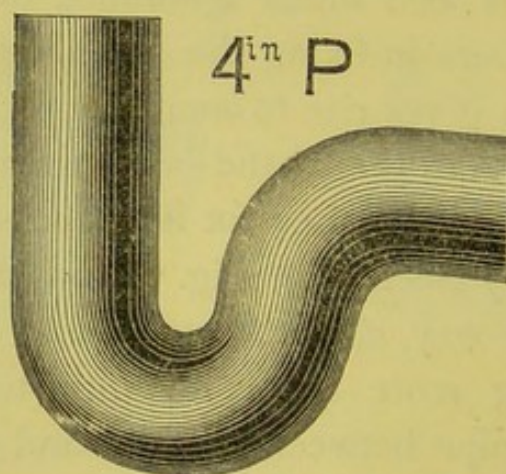
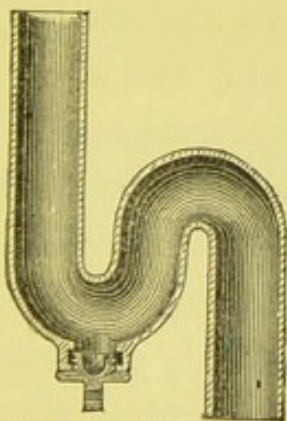

FIG. 7.
FIG. 8. SECTION.
Traps with a cleansing "cap and screw" attached (see Figs. 8 and 9) are always very convenient when fixed to lavatories and sinks, &c. &c., or at the *foot of soil-pipes*; but to water-closets, and places of that kind, they are of no value, for the hand can always get down to the trap through the apparatus. When a trap has a "cap and screw" attached to it, care should be taken to see that this cleansing screw-cap is *below* the water-dip, and on the *house-side of the trap*—i.e., it should be under the level of the water in the trap. Where
*Patent Cast-lead Trap.*—The most self-cleansing lead trap now in use is the patent cast-lead trap, as Figs. 7, 8, and 9: there are no soldered
made by hydraulic pressure. The substance of the lead is regulated, but the strength is equal to Strength. milled lead 7 lbs. and 8 lbs. to the superficial foot. It consists simply of a round pipe cast into the shape somewhat of a reaper's hook in the one case, as Figs. 7 and 9; and in the other somewhat of the letter S, as Fig. 8. Figs. 7 and 9 are known in the trade by "P" or "Half S," and Fig. 8 by "S."
A cap and screw are attached to the smaller size traps, as shewn in Sections, Figs. 8 and 9, for Cap and screw for cleansing purposes cleaning-out purposes, and for unstopping the
waste-pipes on which they are fixed when necessary. The 4-in. trap, Fig. 7, can always have a cap and screw soldered to it when fixed in places where the hand cannot be put into the inlet, or dip-part, of the trap; but this can always be done when they are fixed under a water-closet or slop-sink, and also when there is a  $4\frac{1}{2}$ -in. rim and grate